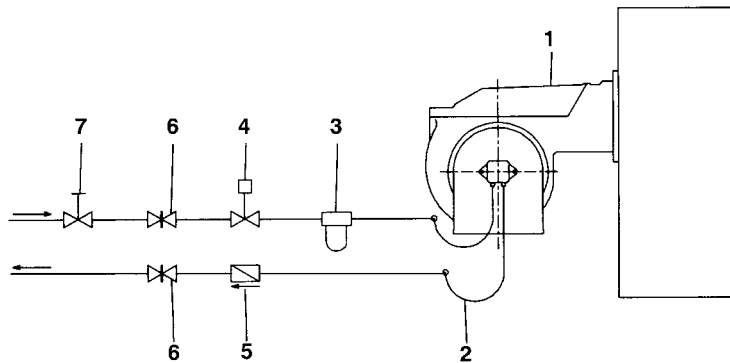

Fig. 4 - Double-pipe system
**NOTE:** in plants where gravity or ring feed systems are provided, install an automatic interception device (see n. 4–Fig.4).